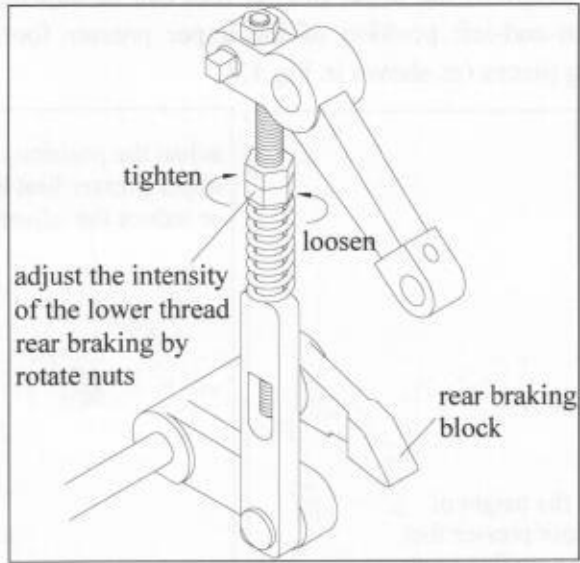

Fig.10
**4.7.4** Rotate the eccentric pin or the adjusting nut to set the intensity of lower thread rear braking. (as shown in Fig.10)